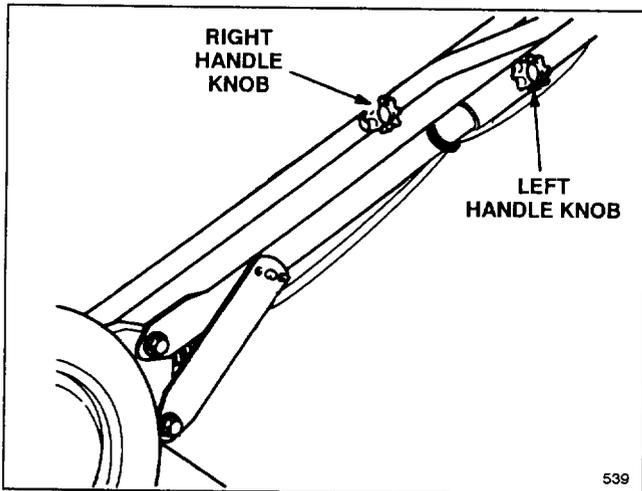
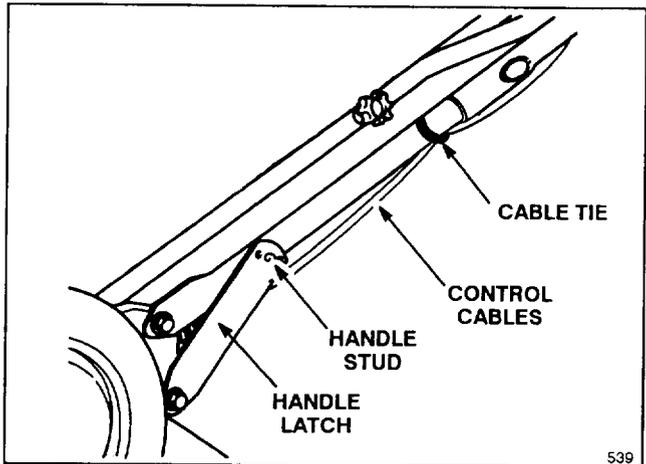

Figure 1
Figure 2
2. The left handle knob is shipped from the factory on the outside of the handle (Fig. 1). Remove the left knob and bolt. Reinstall knob and bolt on inside of handle (Fig. 2). Both handle knobs should be positioned on the inside of the handles.
Note: If handle height is not satisfactory, adjust by placing handle stud (Fig. 2) into a different hole. Tighten handle knobs.
5. Ensure control cables (Fig. 2) are to the rear and inside of handles. Secure cables to handle with cable tie as shown in Figure 2.
3. Align handle and tighten handle knobs. Move handle latches slightly outward so they will not be in the way when pivoting the handle backward into the operating position (Fig. 2).
4. Pivot handle backward. Move handle latches inward while snapping handle stud into center hole of handle latch (Fig. 2). If a handle latch does not fit tightly against the handle tube, remove latch from handle stud, bend the latch inward, and reattach to handle stud. Repeat as necessary to ensure a tight fit between latch and handle. Tighten handle knobs.